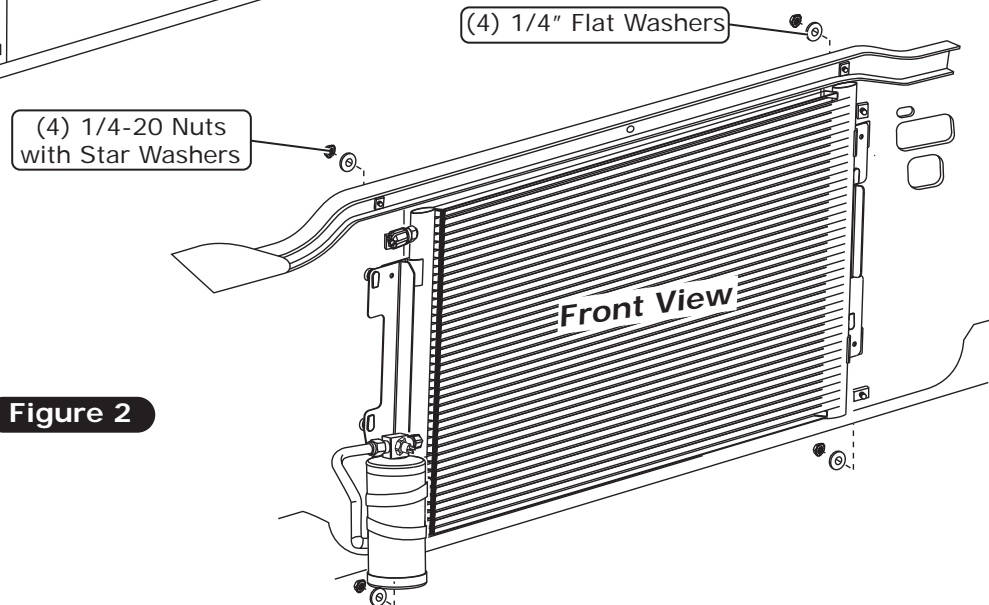

Figure 2
2. Insert the (4) weld studs into the (4) OEM slots on the front of the core support, and secure the condenser using (4) 1/4-20 nuts with star washers and (4) 1/4" flat washers as shown in Figure 2, below.